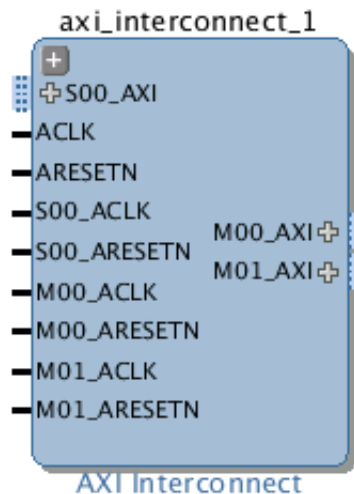

Figure 41: axi\_interconnect\_1 Block Diagram
1. In the IP integrator block diagram, launch the **Add IP** option, find **AXI Interconnect IP** and add it to the diagram (Figure 41).